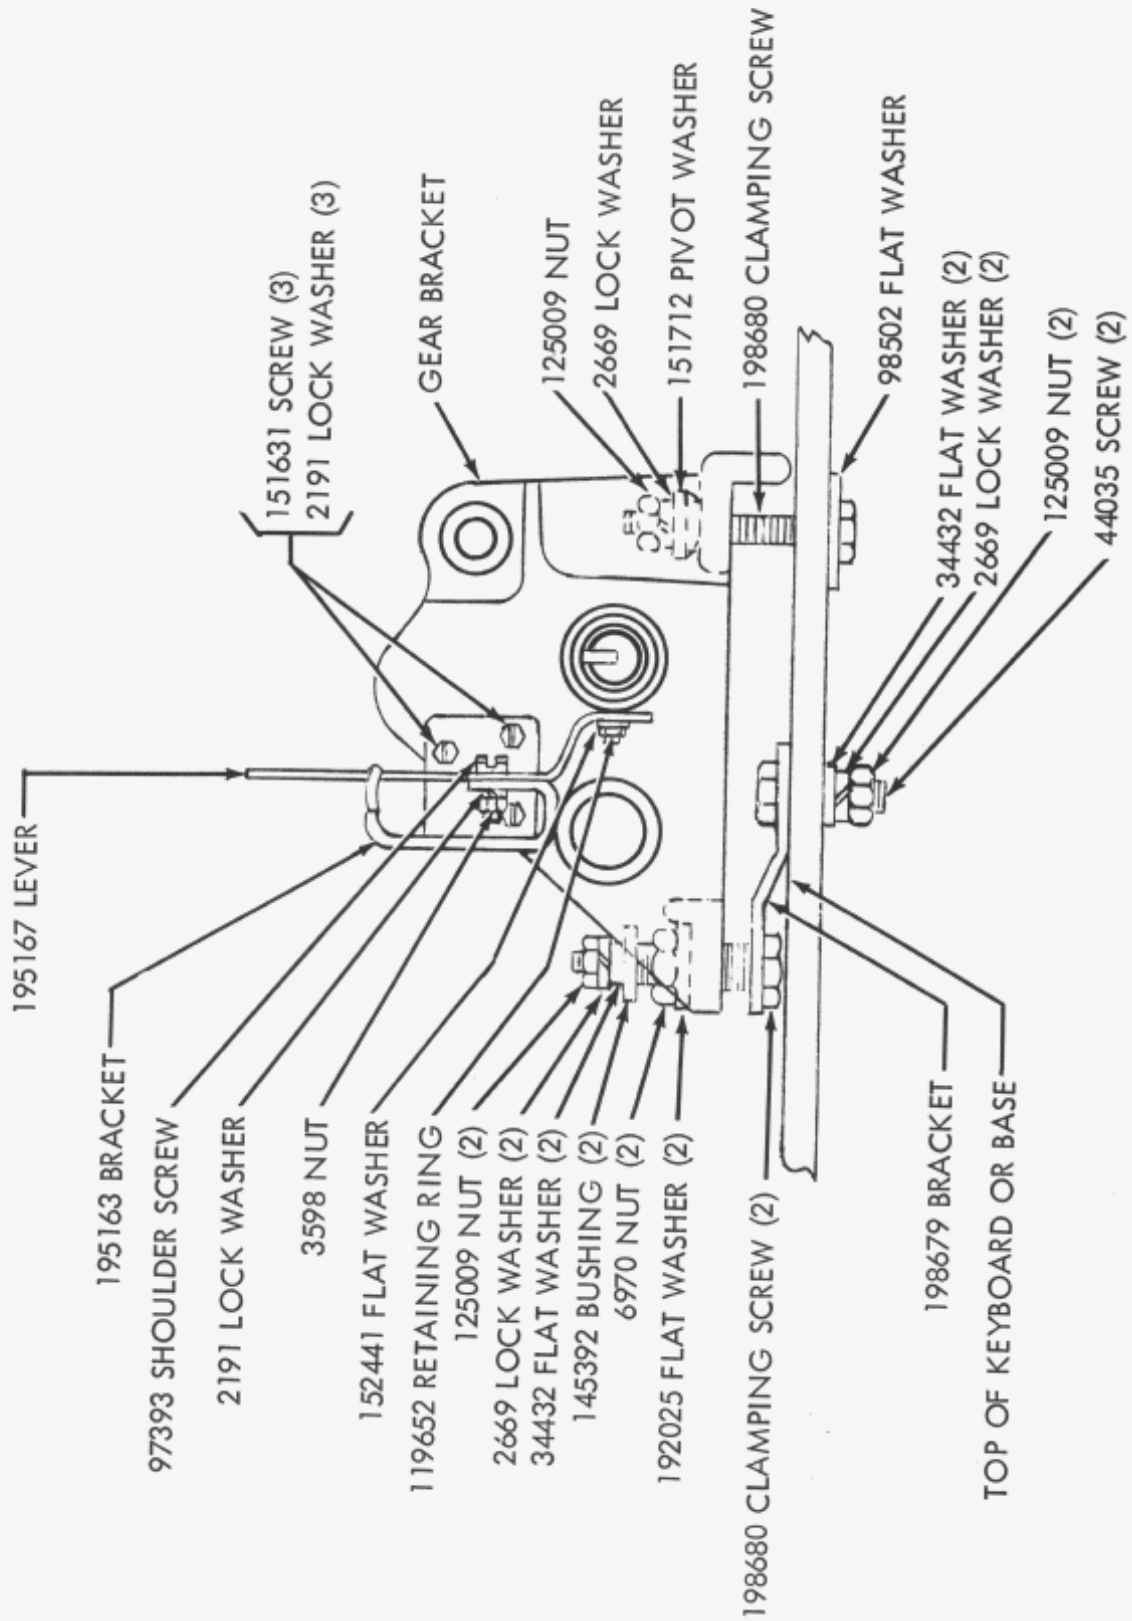

FIGURE 4
h. Insert two 198680 clamping screws through the 198679 bracket. Refer to Figure 4. Fasten the 198679 bracket to the top of the keyboard. Place the bracket mounting screws through the slots at the rear of the keyboard vacated by the intermediate gear assembly. Position the bracket at the forward edge of the slots, toward the printer, and tighten.